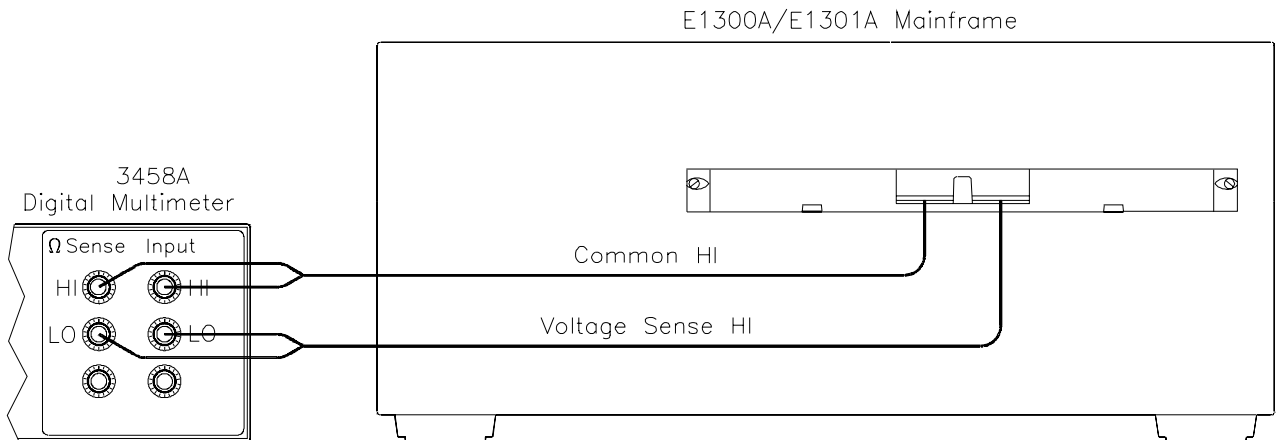

Figure 2-3. Ch 00-47 HI Measurement Connections
- Connect DMM leads as shown in Figure 2-3